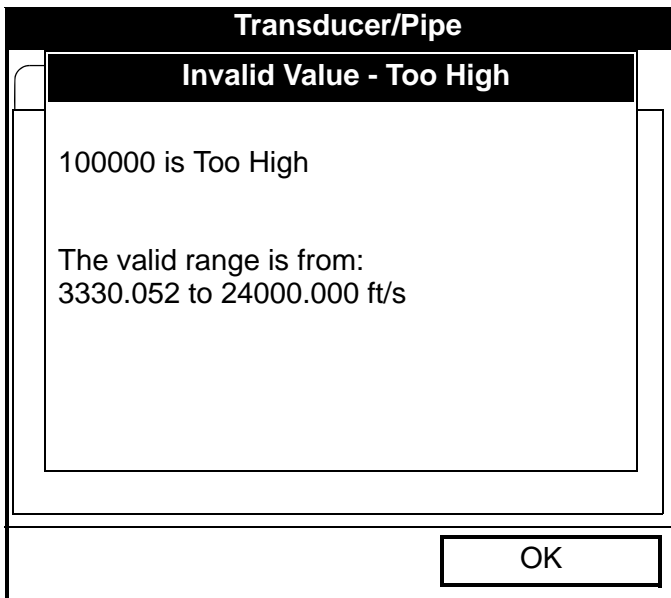

Figure 16: Soundspeed Error Message Window
Note: If the “Other” Pipe soundspeed entered is too large, given the previously entered Wedge soundspeed and angles, an error message similar to Figure 16 below will appear. Press [F3] (OK) (the error message disappears), and enter another soundspeed within the range specified.